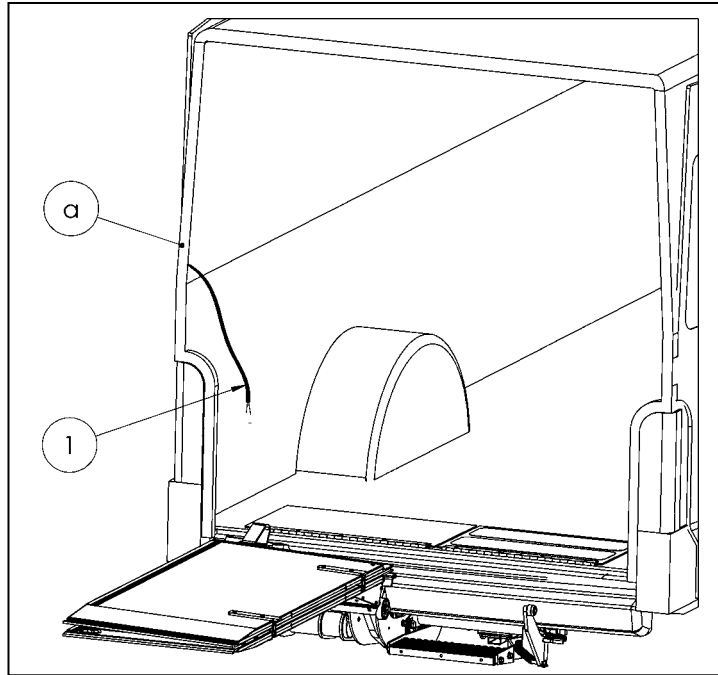

Figure 67
- Find the cable connection point for the license plate light in the C column (a) on the Mercedes Benz Sprinter (see Fig. 67).